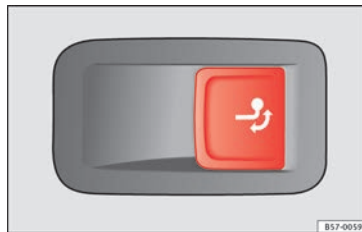

Fig. 217 On the right side of the luggage compartment: button for unlocking the tow hitch.
- Pull the » Fig. 217 button briefly. The tow hitch unlocks electrically and automatically turns outwards. The control lamp in the button will flash » Fig. 217.
- Pull the » Fig. 217 button briefly. The tow hitch unlocks electrically.
- Turn the tow hitch under the bumper with your hand until you feel and see that it engages and the control lamp on the » Fig. 217 button stays on.
- If the warning light of the button » Fig. 217 is *flashing*, this means that the tow hitch has not been attached properly or is damaged » .
- Never press the » Fig. 217 button when there is a trailer hooked to the vehicle or when a carrier system or other accessories are mounted on the tow hitch.